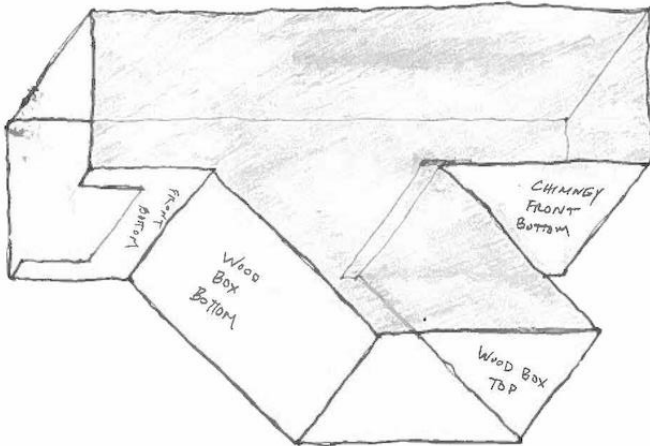

Figure 6 - Partially assembled Chimney, adding the Chimney Side #2. (Image credit: Future Generations University)
14. Assemble the removable Ash Pan by tacking the two “Ash Pan Sides” to the “Ash Pan Bottom” and then adding the “Ash Pan Top” to make a rectangular box (see Figure 6). Weld this assembly together. Add the “Ash Pan Front” using a hinge, so that it can be opened or closed to manage airflow when operating the RSE (see also Figure 6). The Ash Pan is a removable part that allows the Chimney structure to be more easily inserted into the barrel and more easily cleaned. It will simply nest tightly against the Chimney once it is in place in the barrel.